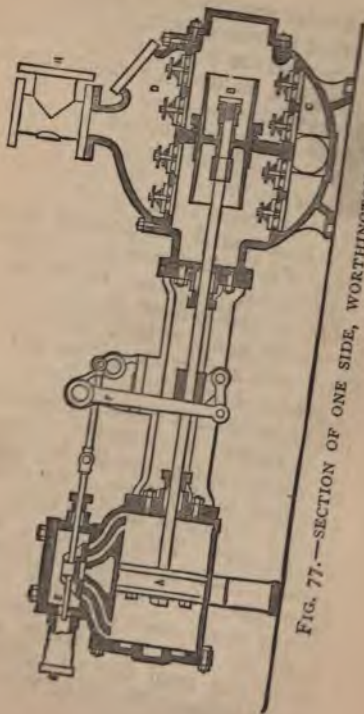

FIG. 77.—SECTION OF ONE SIDE, WORTHINGTON PUMP.
A. Figure 77 is a sectional view of one side or half of a Worthington high pressure steam pump, of ordinary con-